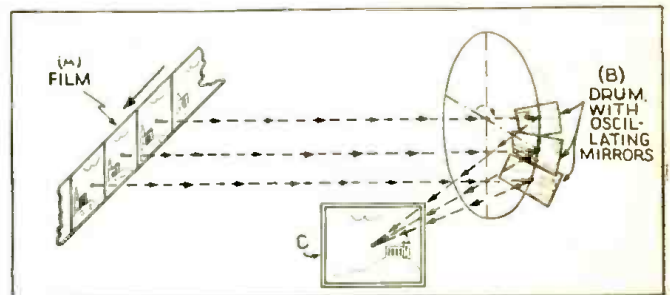

Fig. 1. Sketch showing how the film, which is moving continuously (not intermittently, as is usual) is scanned to produce a flickerless image.
Scanning is accomplished by means of a mirror drum as illustrated in Fig. 1. As shown, the film (A) is moved and illuminated absolutely uniformly. The old flicker as frame after frame of the film is pulled into the light gate by the jerking intermittent sprocket is no longer present. The motion is continuous due to the fact that at the time the mirror of the drum (B) is about ready to finish the scanning of a given frame, the adjacent mirror has already started to scan the following frame. To avoid "cross-over" of the scanning lines, or better said, scanning impulses, the power of illumination of the first operating mirror decreases in the same degree as the brilliancy of the adjacent mirror increases. This increase and decrease of illumination is caused by the oscillating movements of the scanning mirrors.